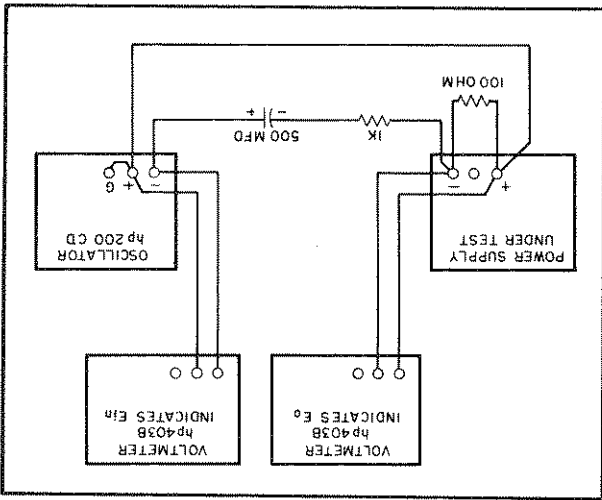

Figure 5-6. Output Impedance, Test Setup
a. Connect test setup shown in Figure 5-6.